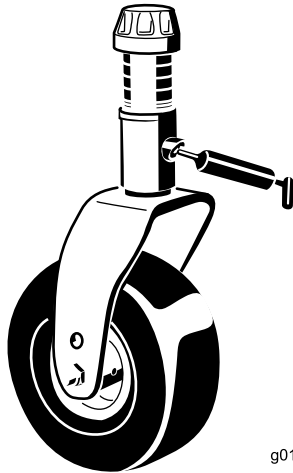

Figure 70
- Castor fork shaft bushing (1) (Figure 70)
- Idler arm pivot bushings (1) (located on the idler arm)